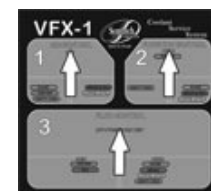

Figure 5
- 10) Once cap is removed return all control panel valves to neutral position and flow control valves at hose ends OFF. (Fig 5)